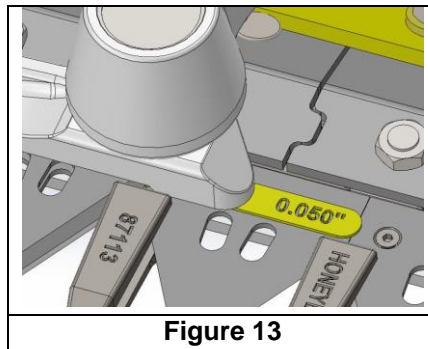

Figure 13
- Install the RH gooseneck onto the bell crank. Take the 0.050" feeler gauge and place between LH knife and RH knife head. Figure 13.